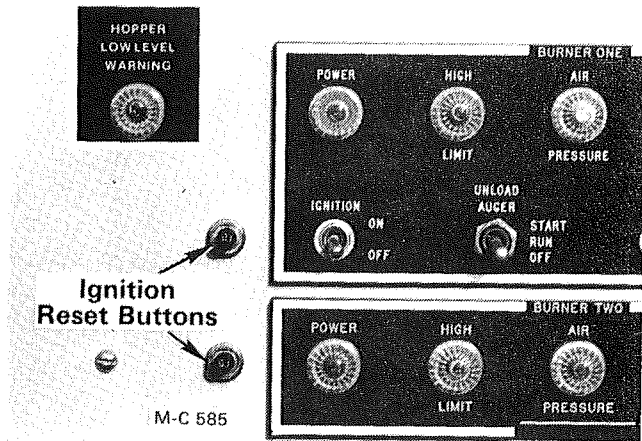

Figure 48
- H. **All models except B-12** - If after several attempts for ignition there is still no flame, push the .01 (1/10th) amp. ignition reset button (circuit breaker) on the control panel, see Figure 48. This circuit breaker protects the ignition board from heat build up due to repeated ignition attempts.